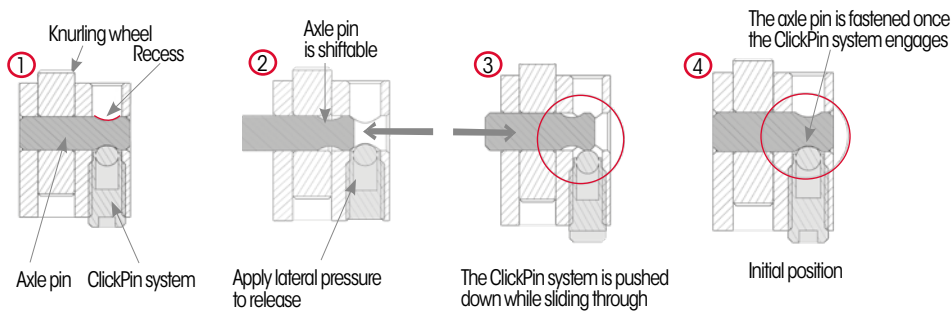

Fig. 4: ClickPin system
The ClickPin system clamps the axle pin in a surrounding recess (Fig. 4, ref. 1). The axle pin is already pre-assembled upon delivery. With signs of wear, the axle pin can be replaced by pushing it to the side by hand (Fig. 4, ref. 2). This will disengage the ClickPin system and the axle pin can be removed. Slide the new axle pin into the hole (Fig. 4, ref. 3) until the ClickPin system engages in the surrounding notch (Fig. 4, ref. 4). If necessary, the ClickPin system can be adjusted by turning.